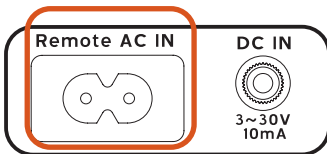

Figure 3a
- A. Plug the female end of the included Remote AC Control Cable into the "Remote AC IN" outlet located on the back of the Power Console. (Fig. 3a)